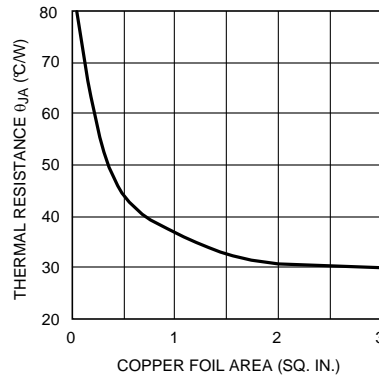

Figure 54. Thermal Resistance (typ) for 7-L DDPAK Package Mounted on 1 oz. (0.036 mm) PC Board Foil
5. Choose a copper area that will ensure the specified  $T_{J(MAX)}$  for the calculated  $\theta_{JA}$ .  $\theta_{JA}$  as a function of copper area in square inches is shown in Figure 54.
4. Finally, using this value for  $\theta_{JA}$  choose the minimum value of copper area from Figure 54.
Examining Figure 54, we see that we cannot attain this low of a thermal resistance for one layer of 1 oz copper. It will be necessary to derate the part by decreasing either the ambient temperature or the power dissipation. Other solutions are to use two layers of 1 oz foil, or use 2 oz copper (see Table 1), or to provide forced air flow. One should allow about an extra 15% heat sinking capability for safety margin.